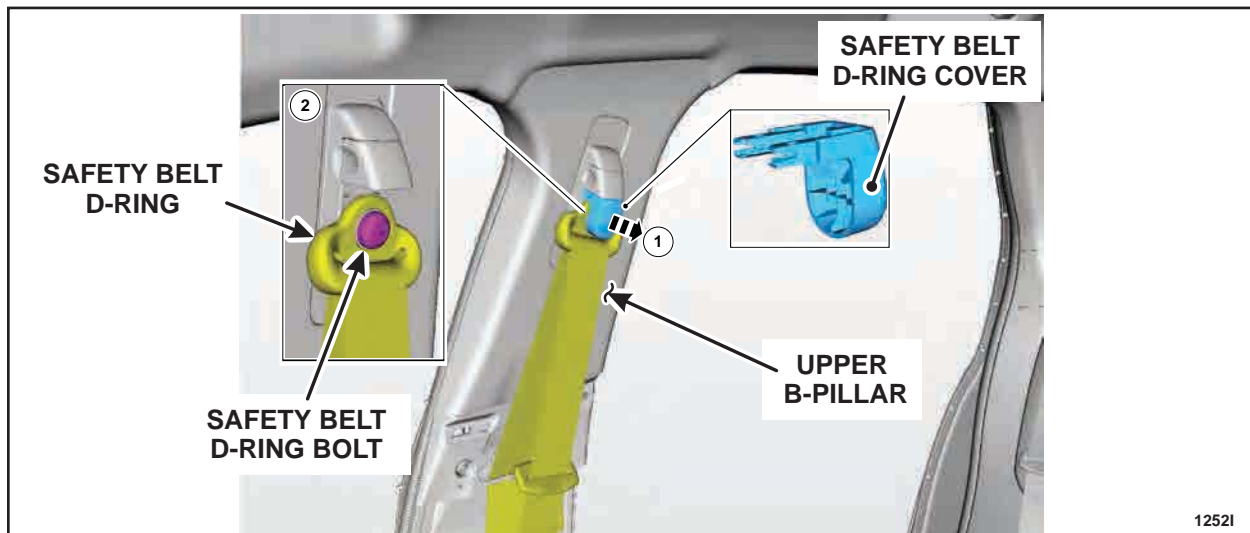

FIGURE 7
12. Remove the safety belt D-ring cover and bolt from the RH and LH upper B-pillar. See Figure 7. Position the safety belts away from the upper B-pillars.